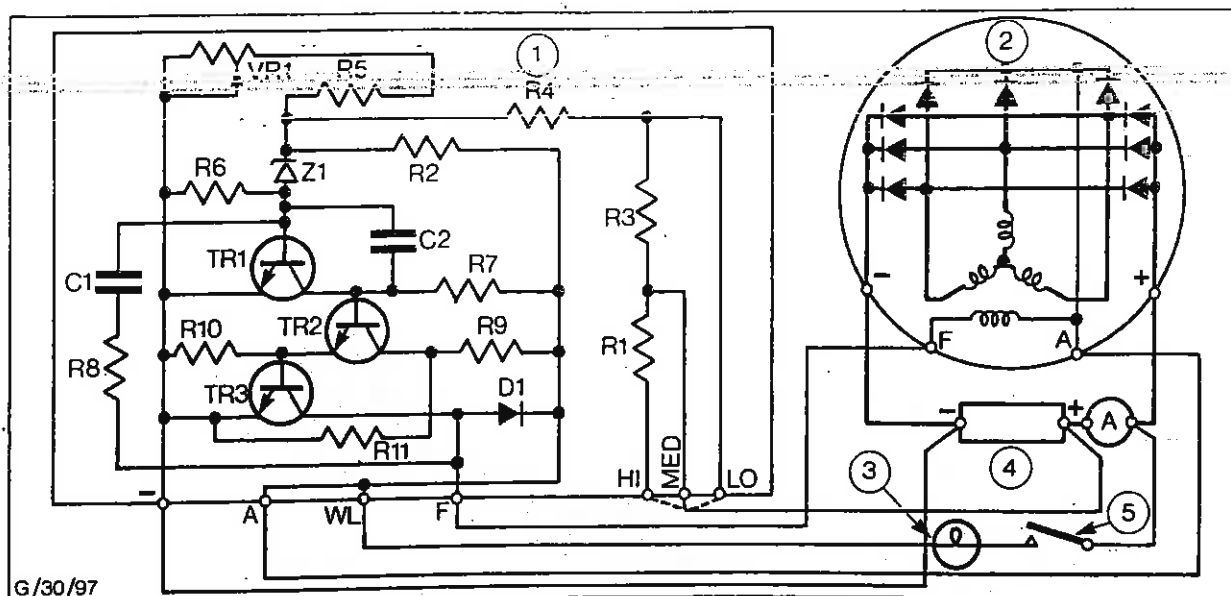

Fig. 58 - Schematic Wiring Diagram of AC5 Charging System
The initial field excitation is supplied from the battery through the warning light when the start switch is closed, connected as shown in Fig. 58.
The function of the regulator is to control the alternator output voltage. This is done by rapidly switching on and off the alternator field voltage by means of transistors, while a Zener diode provides the voltage reference - refer to Fig. 58 while reading the following explanation.
Before carrying out any tests, check that all terminal connections are correct - see Fig. 58.
2. If an ammeter is not already fitted, connect the test ammeter in the alternator positive line as shown in the wiring diagram in Fig. 58.